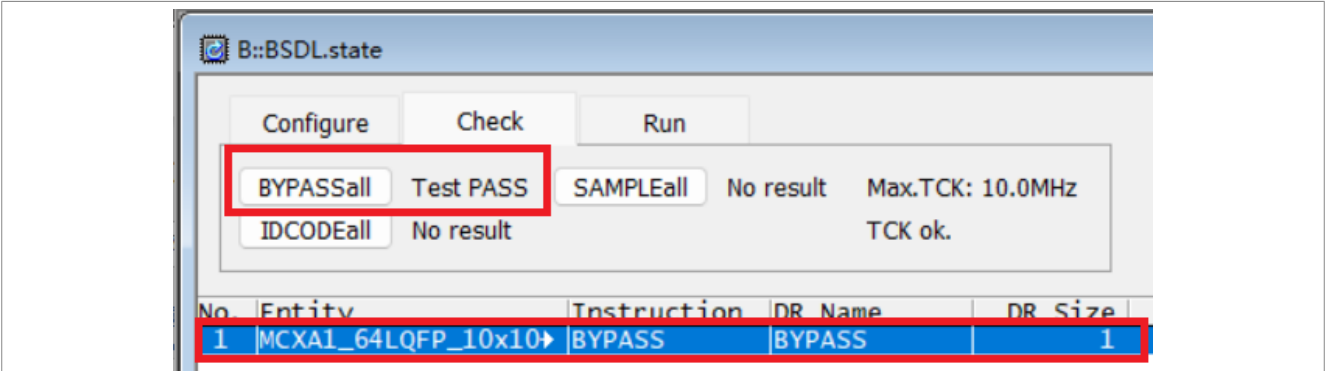
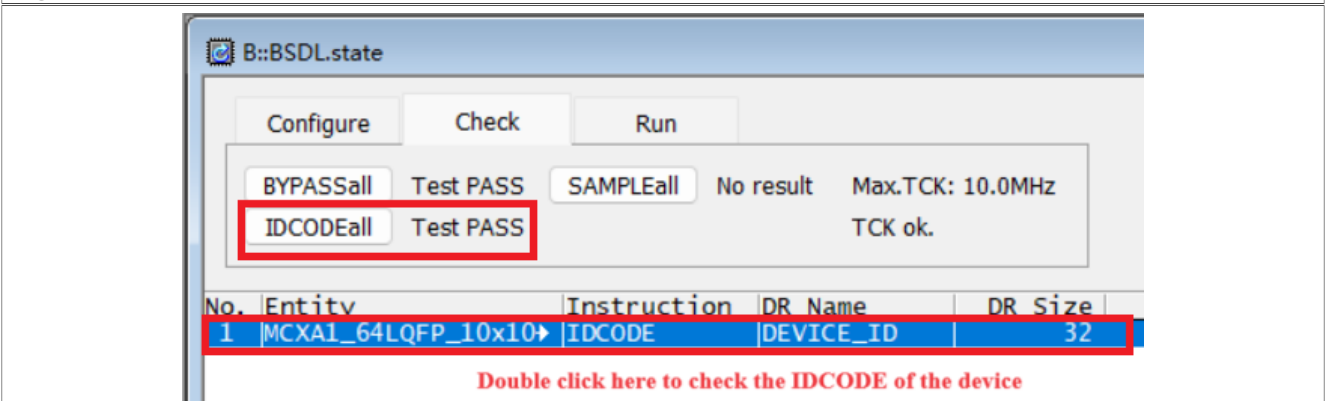
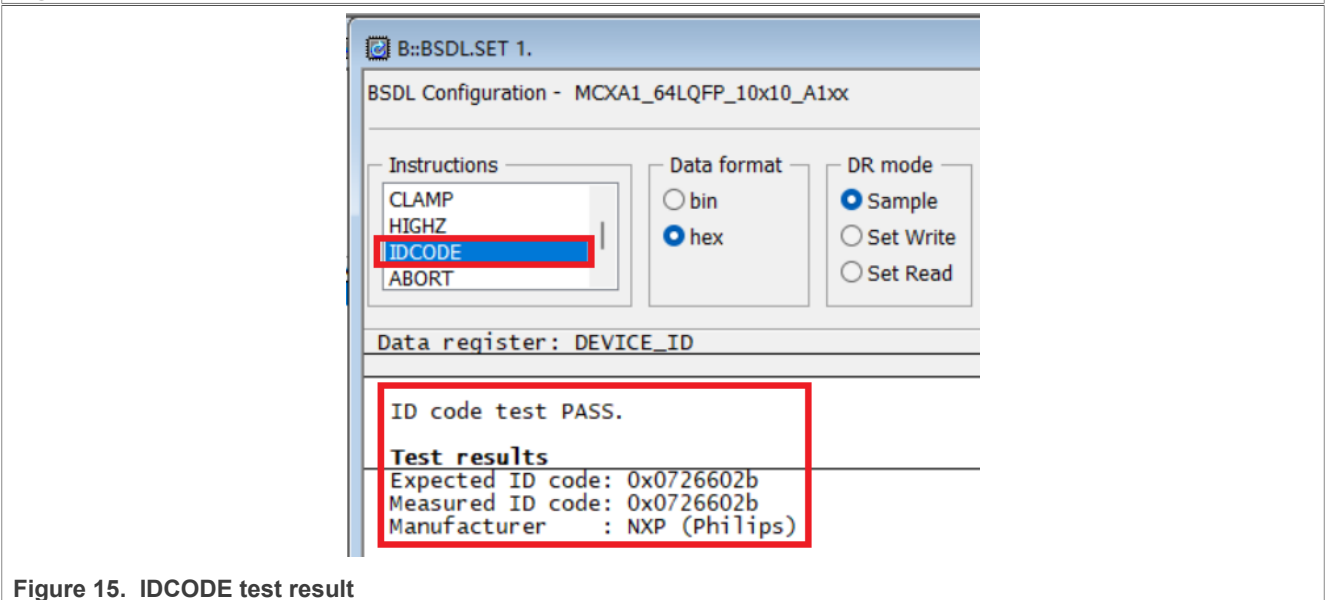

Figure 13. Check BYPASS
Figure 14. Check IDCODE
Figure 15. IDCODE test result
- Switch to the **Check** tab of the BSDL.state window. As shown in Figure 13 and Figure 14, click the **BYPASSall** button and the **IDCODEall** button to see if both results can pass. Double-click the entity
name as shown in Figure 14. The IDCODE test result can be seen in the BSD.L.SET window as shown in Figure 15.